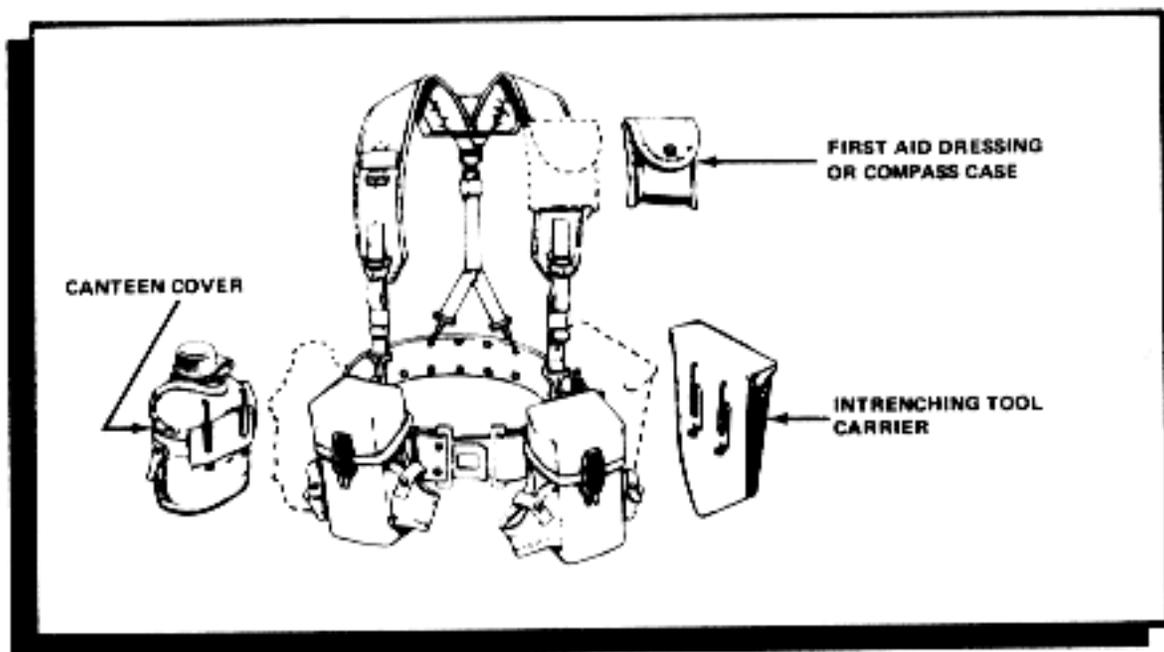

Figure 4-16. Attaching intrenching tool carrier, canteen cover, and first aid dressing/compass case to belt.
**Attaching the Intrenching Tool Carrier.** Using the two slide keepers on the back of the carrier, attach the carrier to the belt on the left side as close as possible to the ammunition case (figure 4-16). Place the intrenching tool in the carrier so that the blade portion is to the back of the carrier.
**Attaching the Canteen Cover.** Using the two slide keepers on the back of the canteen cover, attach the cover on the right side as close as possible to the ammunition case (figure 4-16).
strap. It can also be attached to the right side of the belt, next to the ammunition case (figure 4-16). The case should be attached in an upright position to prevent loss of the contents.